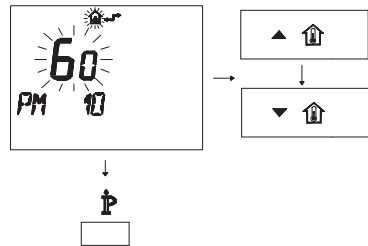

Fig. 7.42
- To modify the programmed SET, act on buttons **▲** and **⬆** or **▼** and **⬆** and wait for the number programmed to flash (Fig. 7.42).